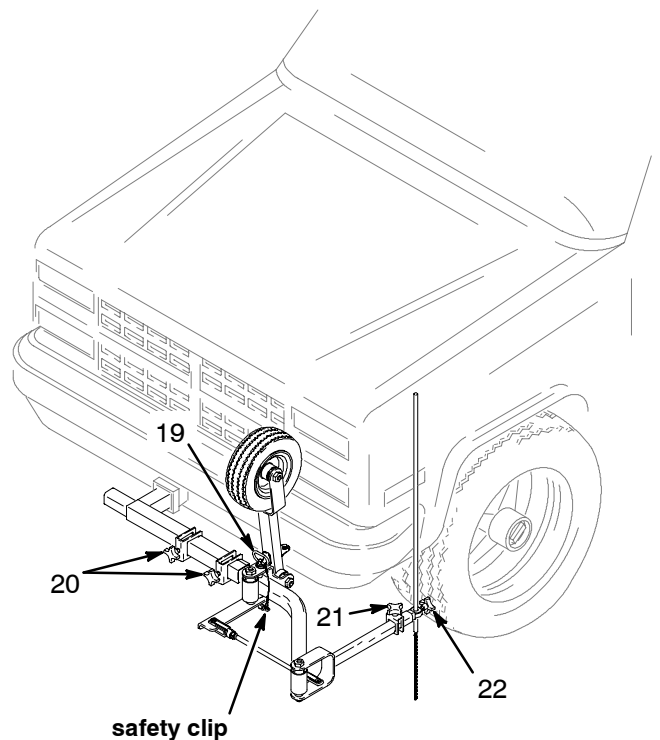

Fig. 15
See Fig. 15. For highway travel, the front mechanical pointer system must be stowed within the total width of the truck. Stow wheel using hitch pin (19) and safety clip. Make sure all fastening clamps (20, 21, 22) are tight.